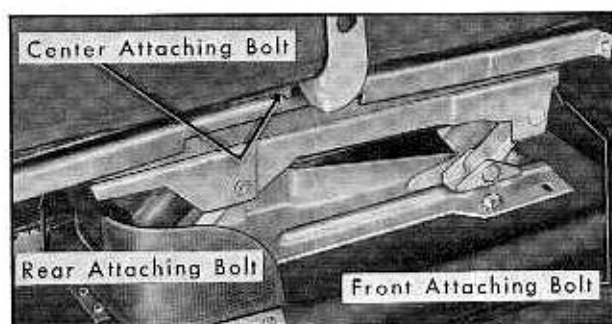
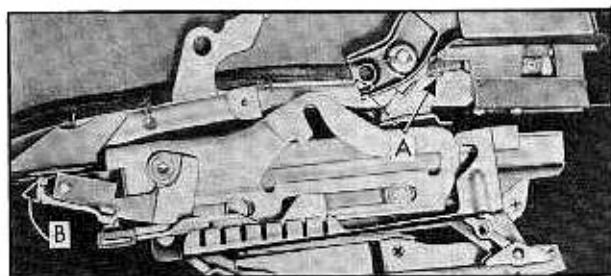

Fig. 3-59 Detaching Seat Assembly from Adjusters (Sedans)
Fig. 3-60 Detaching Seat Assembly from Adjusters (Coupes)
3. On sedan models, remove center and rear attaching bolts, Fig. 3-59, from both adjusters. On coupe styles remove screws "A" and "B", Fig. 3-60.
6. On sedan models, remove front attaching bolt and washer indicated in Fig. 3-59.